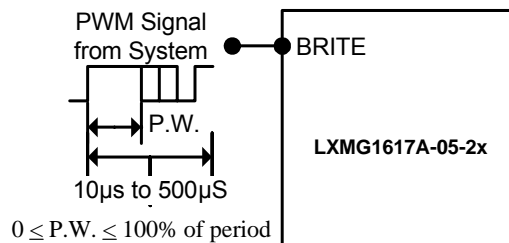

Figure 1A – PWM Brightness Control
- The brightness control may be a voltage output DAC or other voltage source, a digital pot or 500k manual pot. The inverter contains an internal 215k pull-up to 3V to bias the pot, it may be necessary to add a small value resistor in series with the ground side of the POT to set the lower threshold voltage above the absolute minimum dim level capability, especially when both SET pins are programmed low. A PWM logic level signal (figure 1A) may be used up to 5V; however the inverter will reach maximum current at less than 100% duty cycle. This can be calculated as approximately 2V divided by the logic high voltage level; with 3.3V logic level this corresponds to about 60% duty cycle for maximum lamp current.